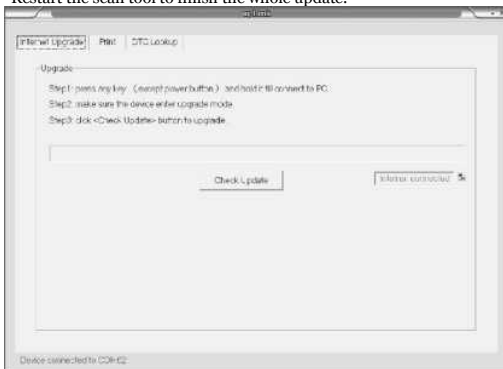

Figure 6.1
- 2) Run uplink.exe in your computer (Mac OS does not compatible); (Figure 6.1)